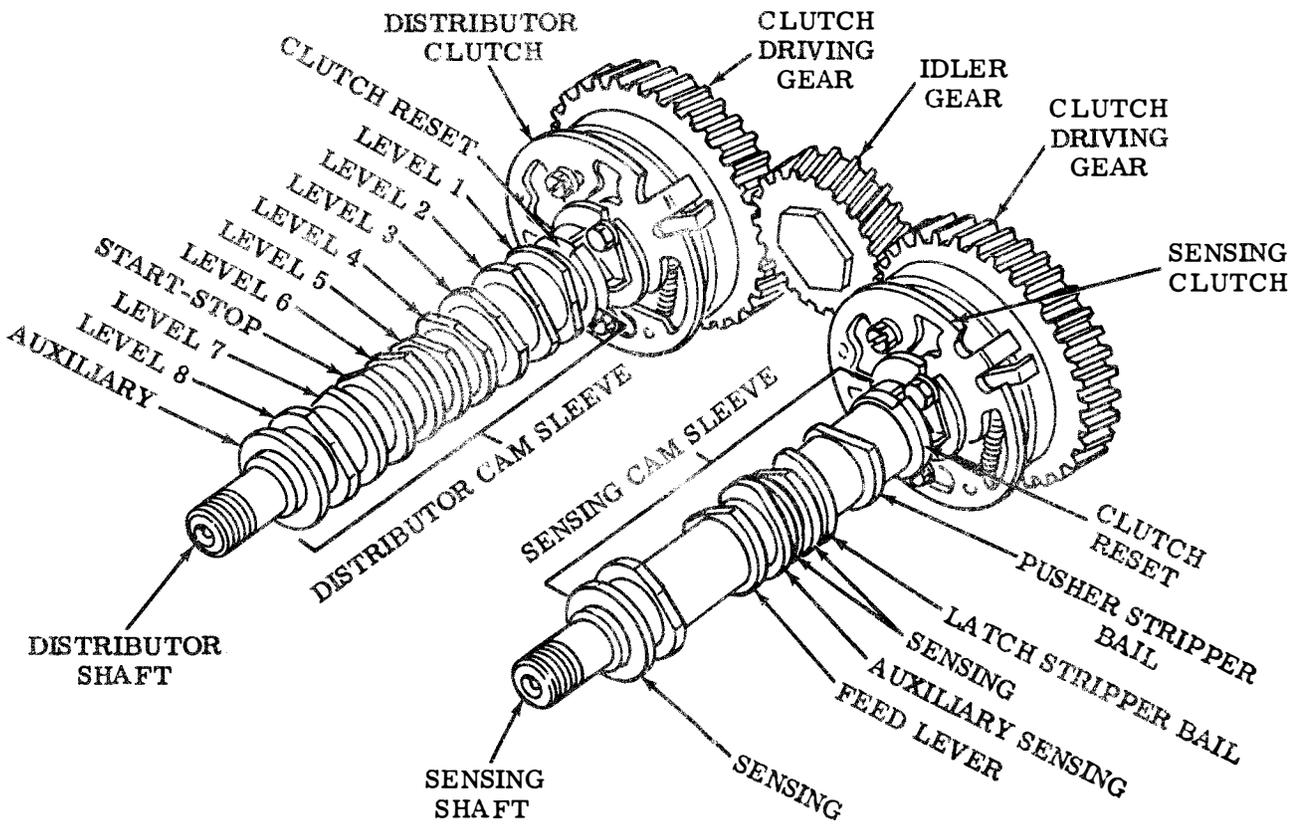

Figure 9 - Main Drive Assembly
6.02 The armature of the clutch trip magnet, fastened to the armature bail, is pulled to the magnet core releasing the lower latching extension of the clutch trip lever. The moving clutch trip lever's lower reset extension engages the clutch reset cam of the cam sleeve and the clutch trip lever's upper extension disengages from the clutch shoe lever and disengages the clutch latch lever from the clutch cam disc stop arm. This permits engagement of the clutch with the shaft which starts rotation of the cam sleeve (Figure 9).